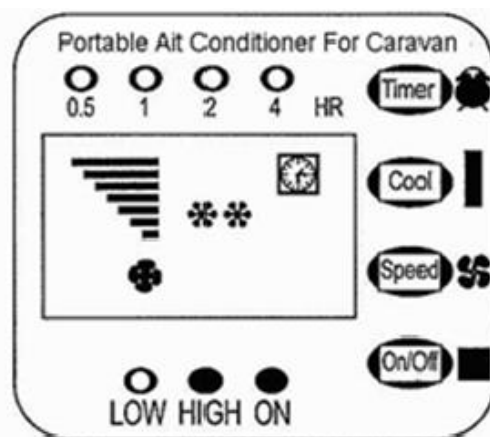

Fig . 4
Press again on COOL to set the ambient temperature to 25°C. The screen will display two (2) stars (Fig. 4).